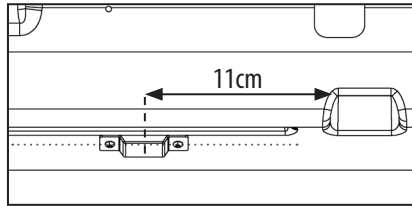

Figure 4
2. The recommended position for mounting the Controller (ensuring this does not interfere with the correct functioning of the Baby Pod stretcher straps and buckles), the clip is positioned 11 cm from centre of clip to inside edge of stretcher buckle recess that is located at rear of the Baby Pod, parallel to the contours of the Baby Pod. (See figure 4)